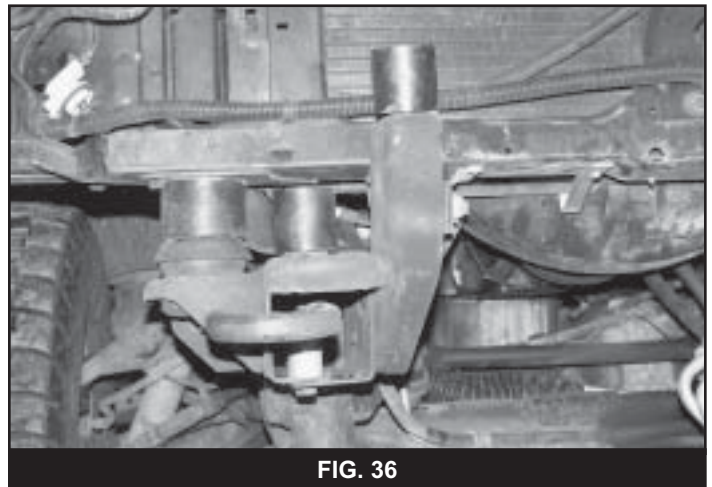
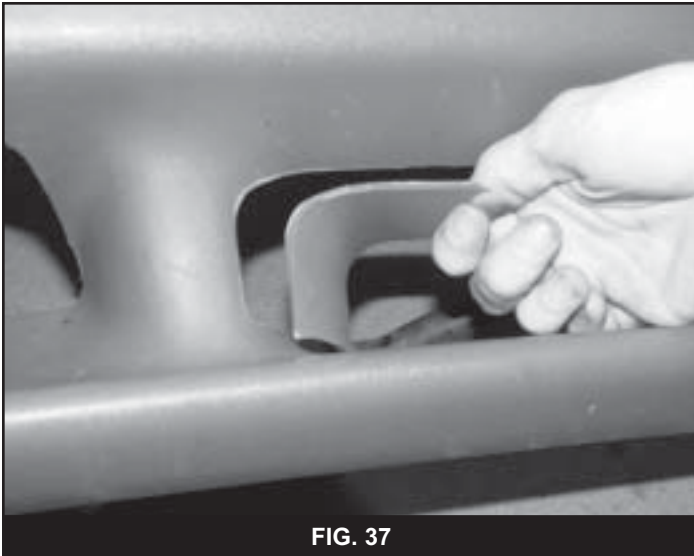

FIG. 36
FIG. 37
82. Set four 2" x 2" body blocks on the four front bumper mounting points (Fig 36). Set the front bumper up to the mounts and mark where the front valance needs to be trimmed to clear the frame. The valance may not require trimming in some cases (Fig 37).